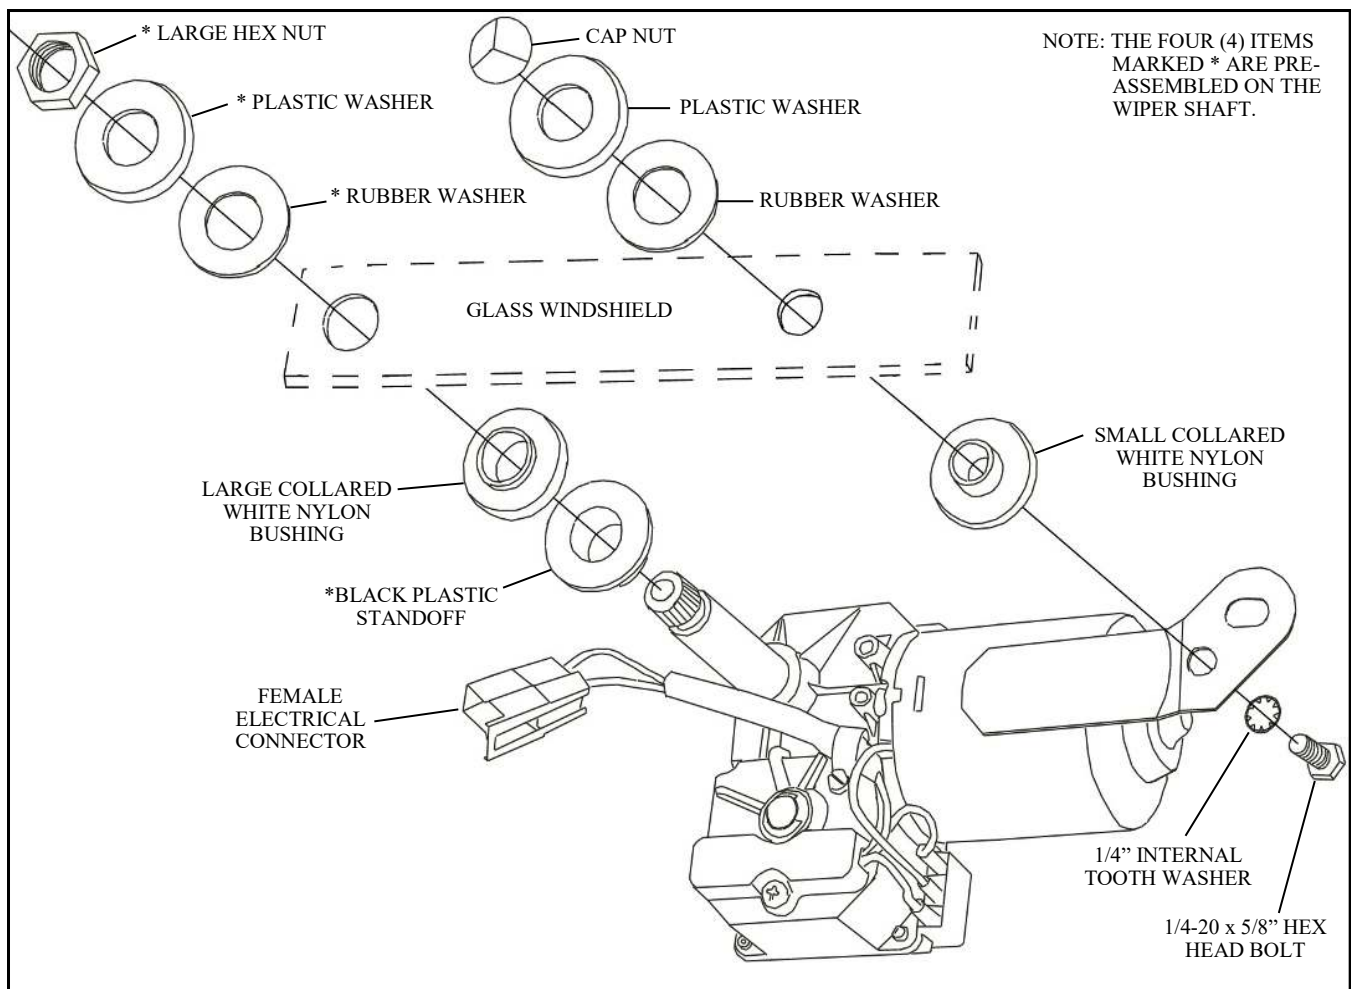

Figure 14.1: Wiper Motor Installation
- 14.1 Remove the large hex nut, plastic washer, and rubber washer from the motor shaft making sure to leave the black plastic standoff on the motor shaft. Put the large white nylon bushing with the collar over the shaft as shown in Fig. 14.1.